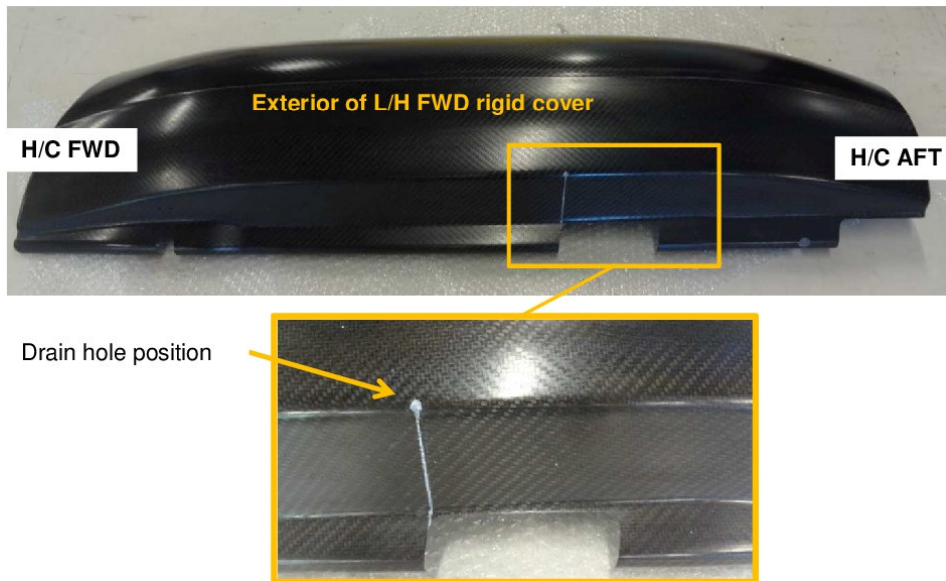

Figure 7 : L/H FWD rigid cover exterior view for drain hole positioning
1. Drill a 6 mm hole in the left FWD rigid cover. Looking at the cover as shown in Figure 7, the centre of hole shall be aligned with the left edge cut of the large bottom foot step opening of the left rigid cover and the centre of the fillet center, see Figure 7, 8 & 9 for drain hole positioning illustration. When installed on the helicopter, the hole shall be in the lowest part of fwd rigid cover.
10. Position the metallic plate on the cover (see figure 7). The hinge access hole of the metallic plate with the one of the rigid cover shall be aligned.